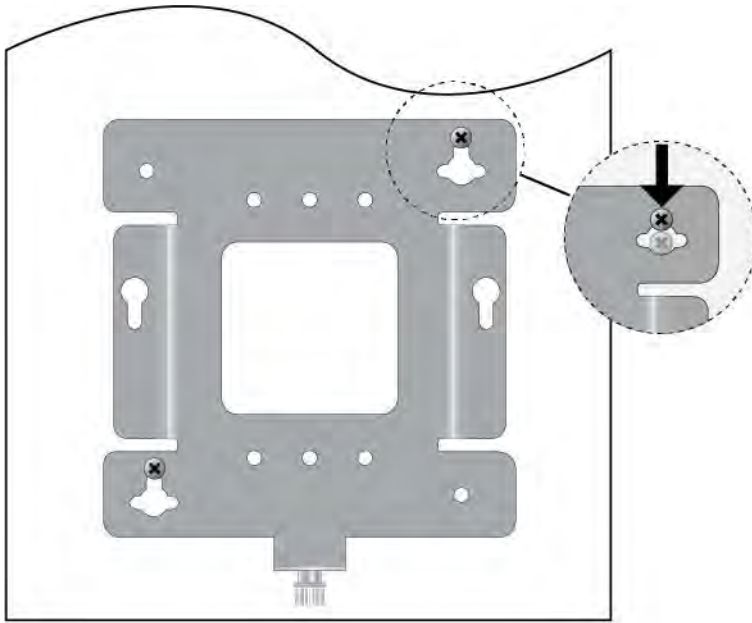

Figure 19. Installing the Mount Bracket On the Screws
6. Insert the openings of the bracket key-hole slots under the two screw heads and slide the bracket into the narrow end of the key-hole slot openings. See Figure 19.